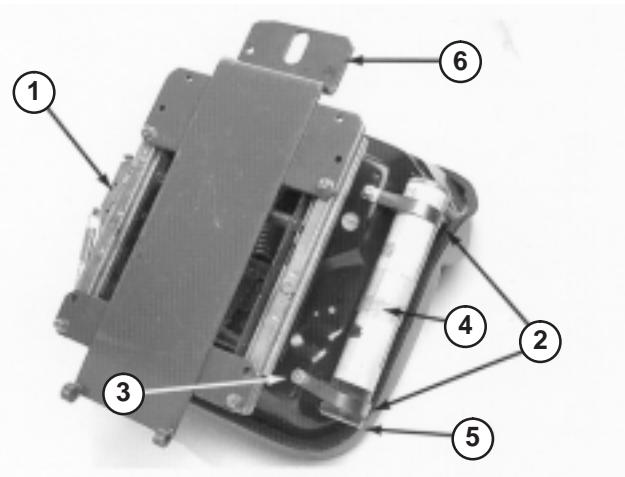

Figure 12
1. Mount seat suspension assembly to 4 capscrews on seat bottom and secure with 4 lock washers, flat washers, and nuts (Fig. 12).
2. Loosely secure 2 R-clamps to right side of seat bottom with 2 capscrews and flat washers supplied in kit (Fig. 12). Install manual tube into R-clamps and tighten capscrews (Fig. 12).
3. Mount seat support over four threaded studs at the bottom of seat suspension assembly and secure in place with flangenuts (Fig. 12).